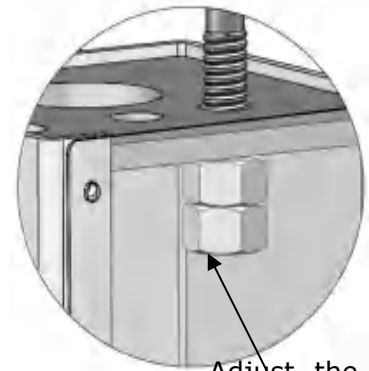

Fig. 51
1. Adjustment of sync cable (See Fig. 51)